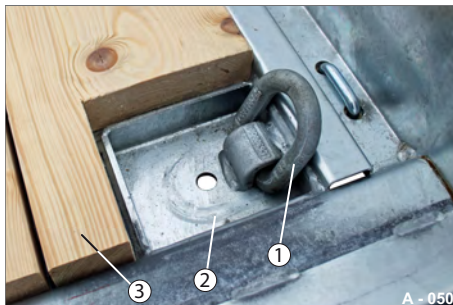

Fig. 54 Lashing ring folded in
- ▶ Raise the lashing ring (Fig. 54/1).